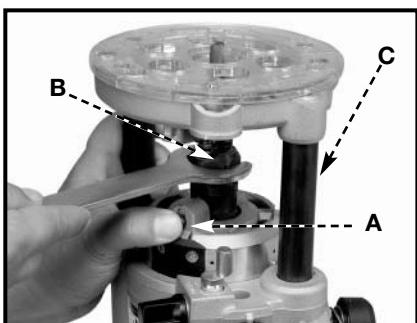
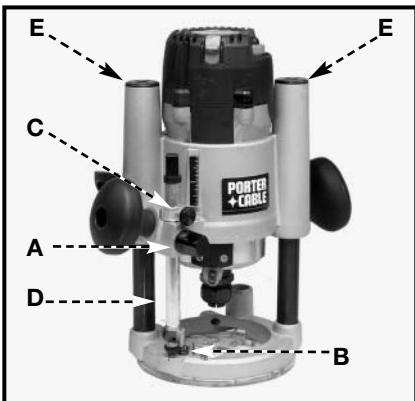

Fig. 8B
Fig. 11
1. Stand the router upside down on its motor cap (Fig. 8B).
3. Press the spindle lock button (A) Fig. 8B, and place a wrench on collet nut (Fig. 8B). Tighten firmly.
If you remove the springs from the posts (E) Fig. 11 to use the plunge base in a router table, remove the post plugs carefully. They are spring-loaded and should be removed only when the base housing is in the up position (Fig. 8B).
1. Loosen the depth rod locking knob (A) Fig. 11, and depth indicator knob (C) Fig. 11, allowing the depth rod (D) Fig. 11 to contact one of the turret stops (A) Fig. 12. Normally the deepest desired cut is set with the depth rod resting on the base casting (B) Fig. 11. The other three adjustable stops (A) Fig. 12 may be adjusted to any desired height. Any combination of fixed and/or adjustable stops may be utilized to achieve the desired depths required for a particular job. The adjustable stop (B) Fig. 12 will raise or lower that stop by $1/32"$ with one full turn of the stop.
- Tighten the depth-rod locking knob (A) Fig. 11.
- Position the depth indicator (C) Fig. 11 at the "0" position and tighten the knob (C) Fig. 11.
- Loosen the depth-rod locking knob (A) Fig 11, and raise until the indicator aligns with the graduation representing the desired depth of plunge (Fig. 13).